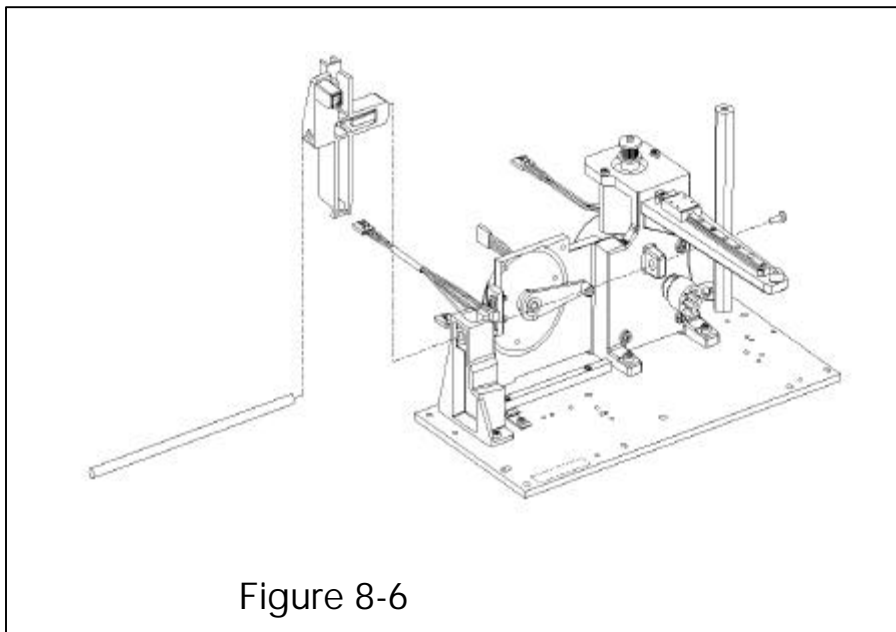

Figure 8-6
2. Remove the Push Bar Shaft by removing the Phillips head screw that secures it to the Motor Casting (see figure 8-6). Once the screw is loose, remove the Push Bar Shaft. (Refer to section 9-18 for more detailed instruction for disassembly and reassemble of the Push Bar Shaft and Crank arm.)